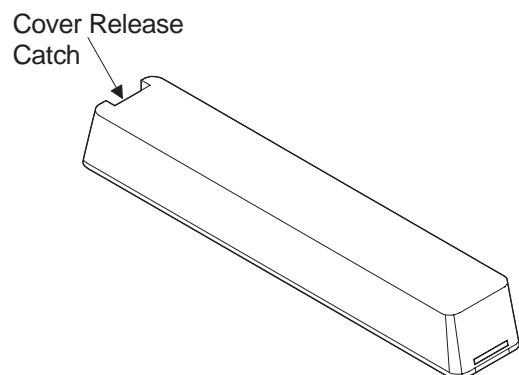

Figure 1. Removing the Sensor Cover
1. Remove the sensor cover by pressing on the cover release catch. This releases the tab on the base from the slot in the sensor cover (see Figure 1).